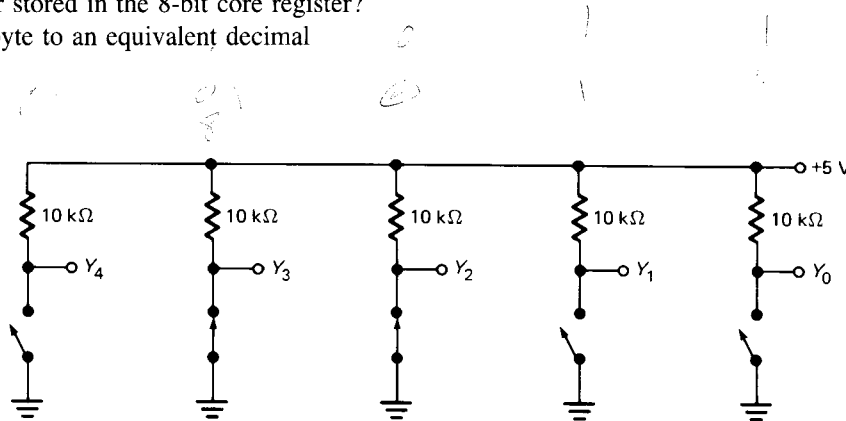

Fig. 1-10 A 5-bit switch register.
- 1-12. Figure 1-10 shows a 5-bit switch register. By opening and closing the switches you can set up different binary numbers. As usual, high output voltage stands for binary 1 and low output voltage for binary 0. What is the binary number stored in the switch register? The equivalent decimal number?
- 1-16. How would you set the switches of Fig. 1-10 to get a decimal output of 27?